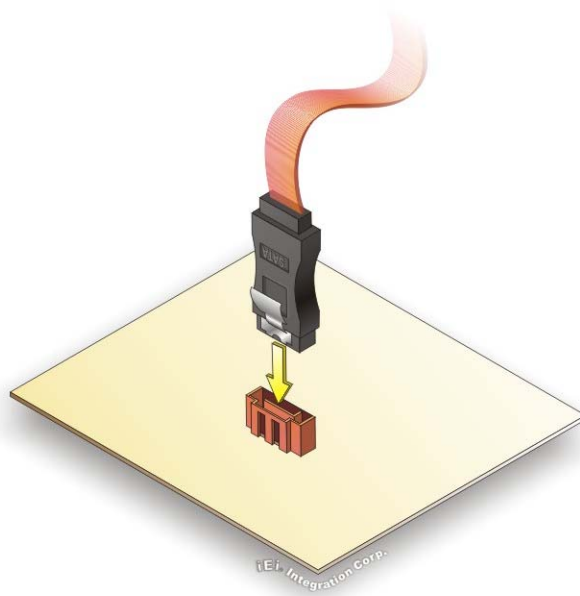

Figure 4-11: SATA Drive Cable Connection
Step 2: Insert the cable connector. Press the clip on the connector at the end of the SATA cable and insert the cable connector into the on-board SATA drive connector. See **Figure 4-11**.